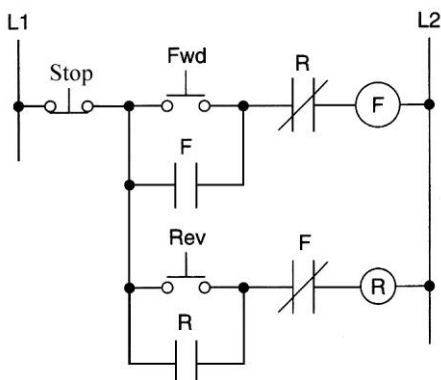

Figure 6-30 Hardwired circuit for assignment 6.
6) The hardwired reversing motor starter circuit shown in Figure 6-30 can be programmed using a PLC. Prepare an I/O connection diagram and ladder logic program for the circuit. Enter the program into the PLC, and prove its operation.